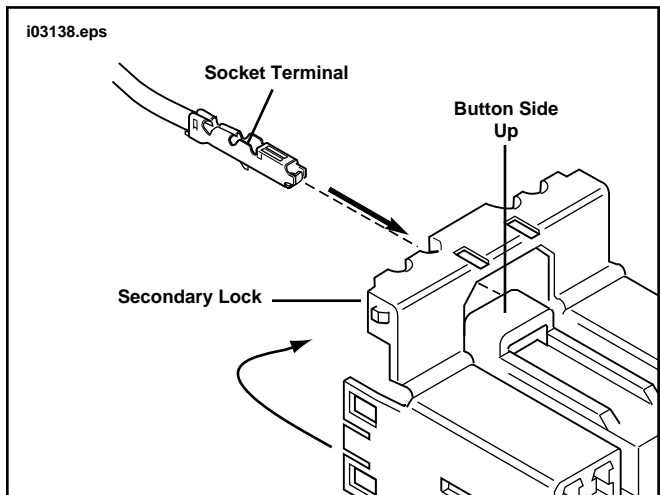

Figure 11. Install Wire to Connector
- a. See Figure 11. From the secondary lock side of the connector, insert the terminal into its respective chamber until it snaps in place. For proper fit, the slot on the terminal must face the tang (up) in the chamber.